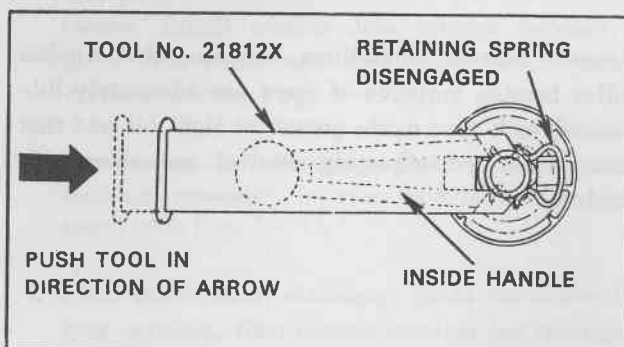

FIG. 7 - 14
1. Remove armrest and screw securing door interior handle to remote control assembly (see Figs. 7 – 1, 7 – 2 or 7 – 3).